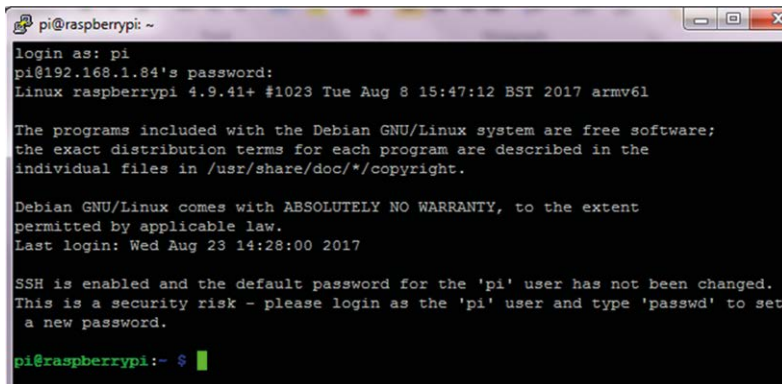

Figure 2.11 Successful login
- After a successful login, you should see the Raspberry Pi command prompt as in Figure 2.11.